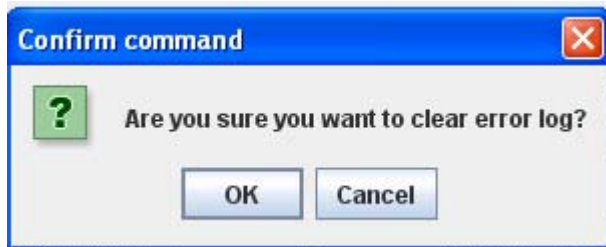

FIG. 21: Clear Error Log
**Clear error log** - deletes the errors from the display. The screen will prompt for confirmation. See FIG. 21.